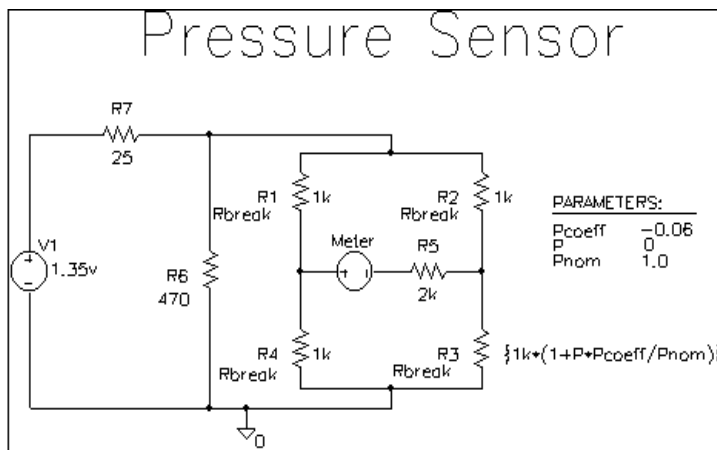

Figure 80 *Pressure sensor circuit.*
To begin, construct the bridge as shown in Figure 80.
Define the part values as shown in Figure 80. For the pressure sensor, you need to do the following:
- 2 Type the new value. Depending on the resistor you are changing, set its value to one of the following (refer to Figure 80).